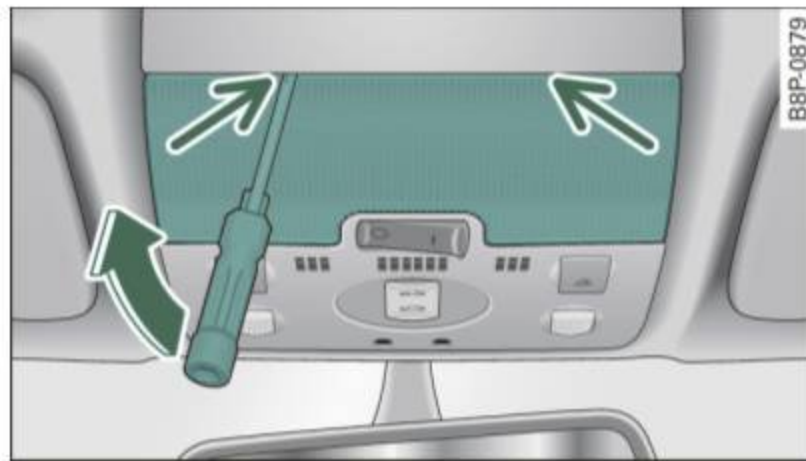

Fig. 43 Light unit in the headliner: removing the glass
- Insert the screwdriver carefully between the light unit and the glass into the visible marks (arrows) ⇒ fig. 43.